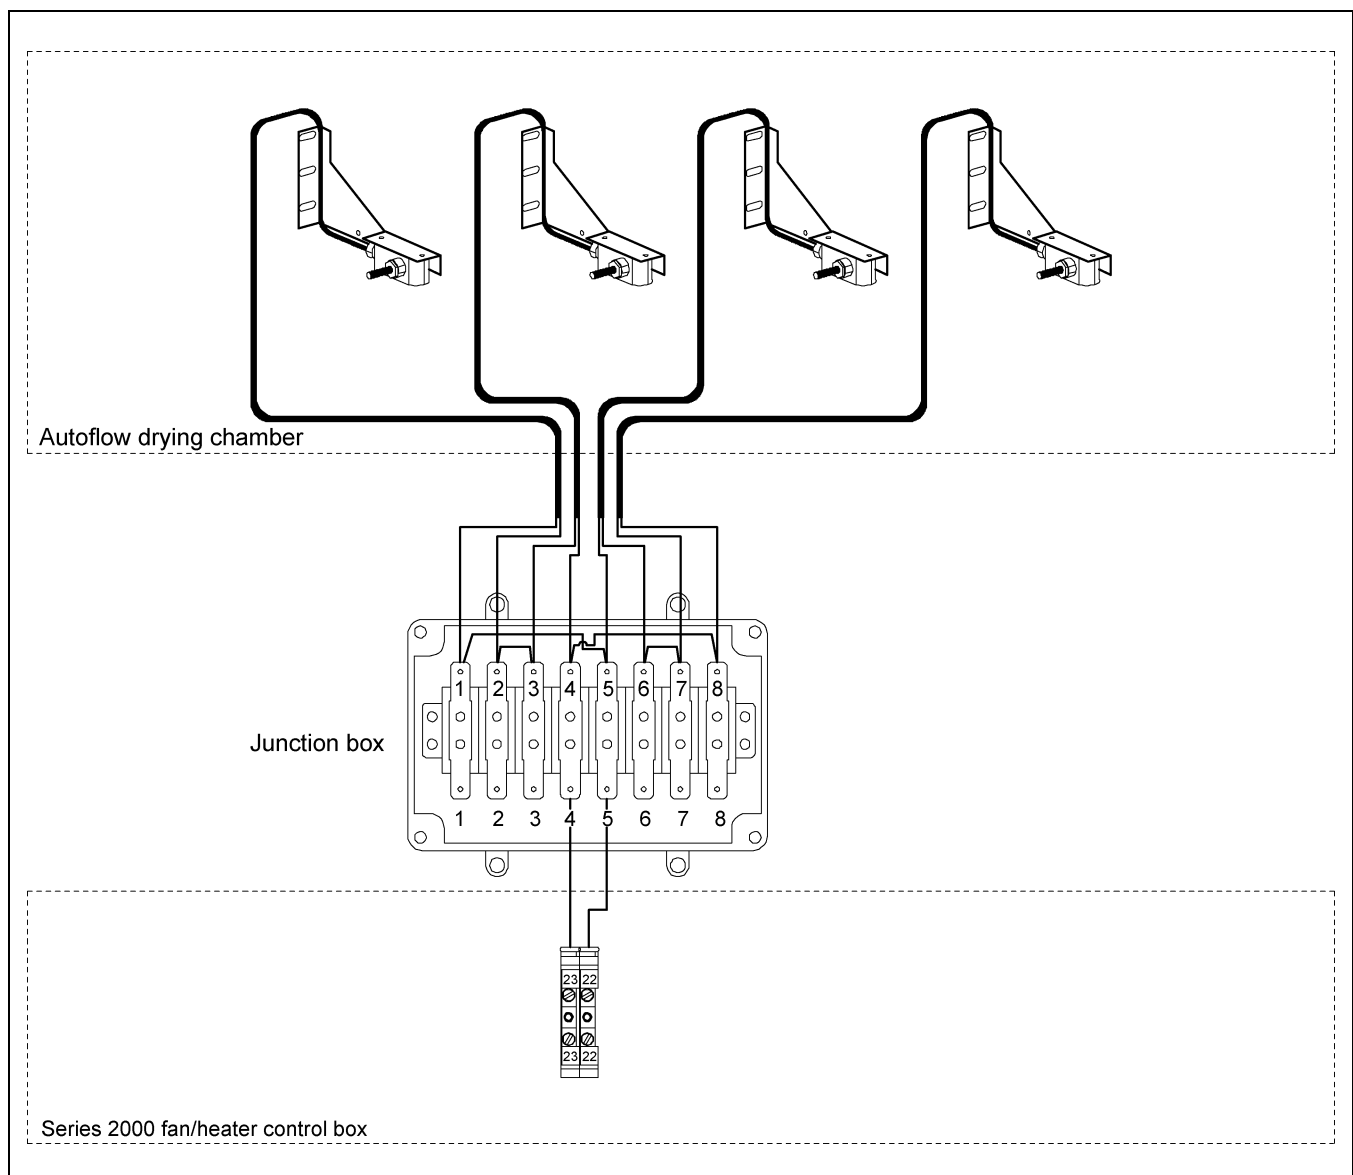

Figure 3H *Illustration of the grain temperature sensor interconnection.*
7. Wire the four (4) temperature sensors as shown in *Figure 3H* and *on Page 19*.